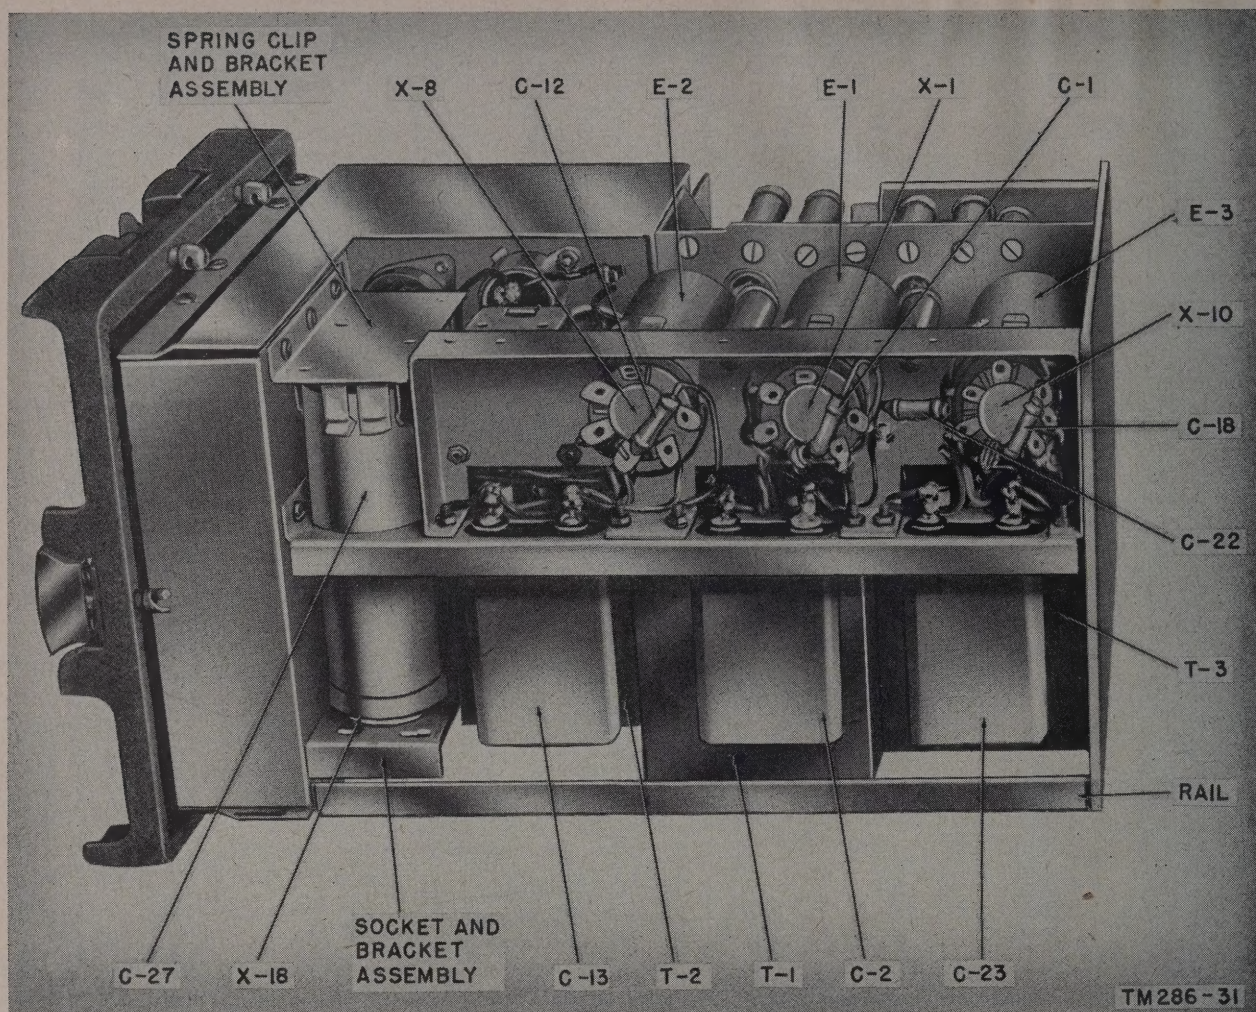

Figure 81. Power Supply PP-112/GR, bottom view of chassis.
d. Vibrators. Three vibrators, E-1, E-2, and E-3, are located on the right-hand side of the power supply chassis (fig. 81). To remove a vibrator, pull straight upward without jiggling. If necessary, use a small screw driver to pry the